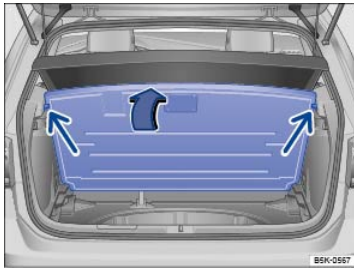

Fig. 192 In the luggage compartment: Floor covering raised and secured.
- Lift the floor covering and secure it in the stops on either side of the luggage compartment ⇒ Fig. 192 (small arrows).